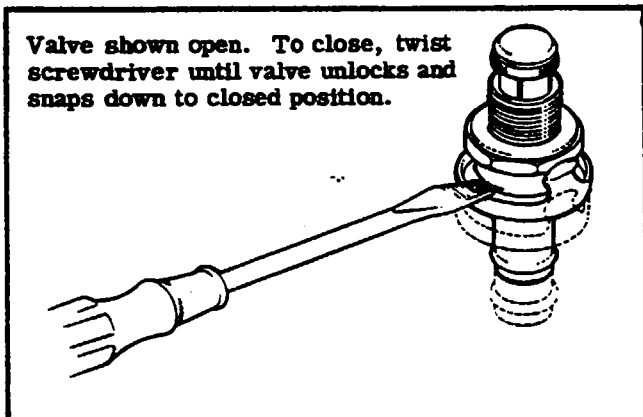

Figure 2-4. Quick-Drain Valve
- d. After oil has drained, close quick-drain valve as shown in figure 2-4 and remove hose or reinstall and safety oil drain plug.